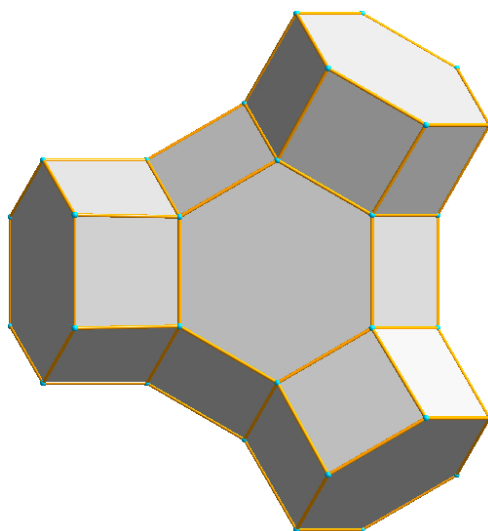

Fig. 63: The structure is again viewed towards the  $(1,1,1)$ -plane.
In the fourth and final step, the connection of the  $\beta$ -cages with each other will be visualized. For that, we have to change the orientation again in order to view along the (1,1,1)-axis: Choose the "Viewing Direction" command from the "Picture" menu, set the input fields next to "h,k,l" to 1, then confirm with "Set", then close the dialog box. You will now look at the structure picture in the direction perpendicular to the (111) plane (fig. 63). Again, you may have to press <F9> afterwards in order to readjust the enlargement factor.